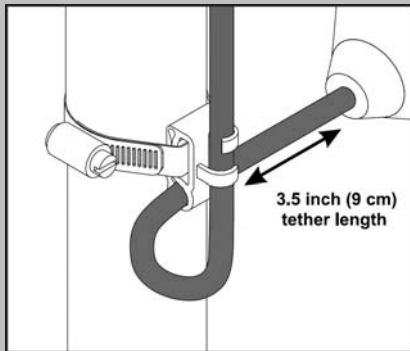

Figure 4
- Mount float switches at appropriate levels as illustrated in **Figures 4 & 5**. Be sure that floats have free range of motion without touching each other, or other equipment in the basin.